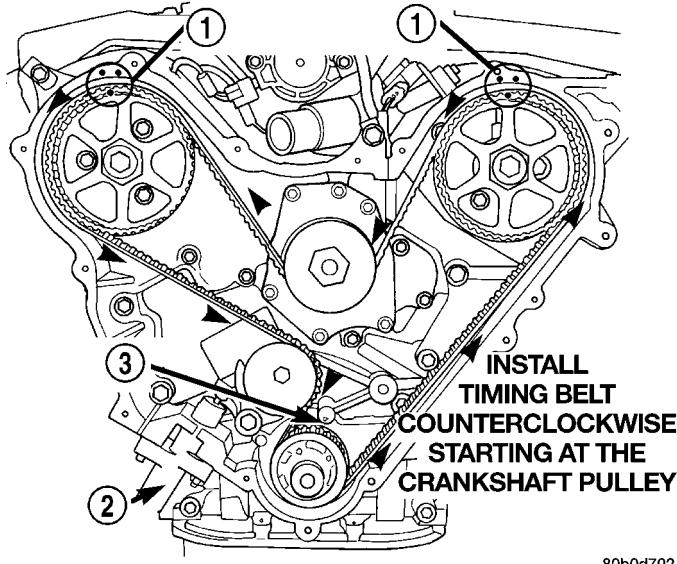

Fig. 152 TIMING BELT - INSTALLATION
(1) Align the crankshaft sprocket with the TDC mark on oil pump cover (Fig. 152).
(3) Install the timing belt starting at the crankshaft sprocket going in a counterclockwise direction (Fig. 152). Install the belt around the last sprocket. Maintain tension on the belt as it is positioned around the tensioner pulley.
(4) Holding the tensioner pulley against the belt, install the tensioner into the housing and tighten to 28 N·m (250 in. lbs.). Each camshaft sprocket mark should still fall between the cover marks.
(5) When tensioner is in place pull retaining pin to allow the tensioner to extend to the pulley bracket.
(6) Rotate crankshaft sprocket 2 revolutions and check the timing marks on the camshafts and crankshaft. The marks should line up within their respective locations (Fig. 152). If marks do not line up, repeat procedure.